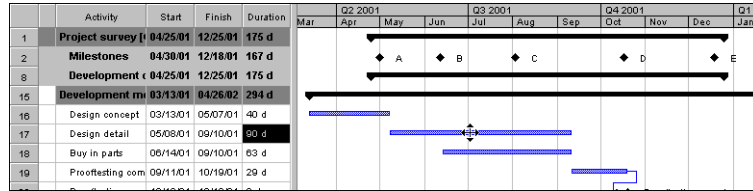

Figure 26: The mouse cursor changes shape when it is moved over the schedule bar
1. Position the mouse cursor on the schedule bar. When the cursor is moved over the bar, its shape changes as in Figure 26.